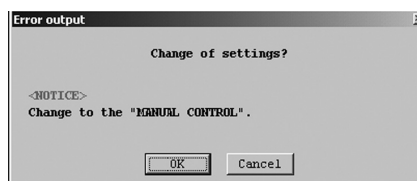

Fig.35
- ⑤ After filling in all the fields required, click on "OK" button. A message box as shown in Fig. 35 then appears.